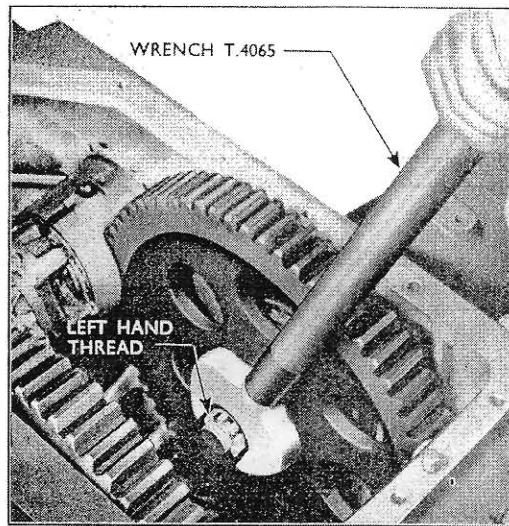

Fig. 3
11. Remove the split pin and castellated nut (left-hand thread) securing the left-hand large reduction gear to the axle shaft, using the special wrench (Tool No. T.4065) as shown in Fig. 3.